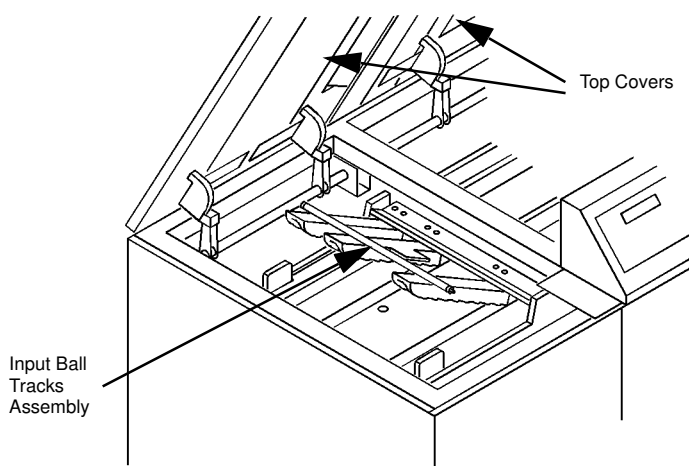

Figure 4-1: The Top Covers and Input Ball Tracks
- 1 Open the Top Covers on the PowerPunch, as shown in Figure 4-1.
- 2 Open (lift) the Input Ball Tracks, as shown in Figure 4-1. Clean the green belt under the three ball tracks, the Sensor Reflector and the Sensor (under the hole in the base plate) with Isopropyl alcohol and a clean, lint-free cloth. Check also for accumulations of paper dust or toner under the base plate.